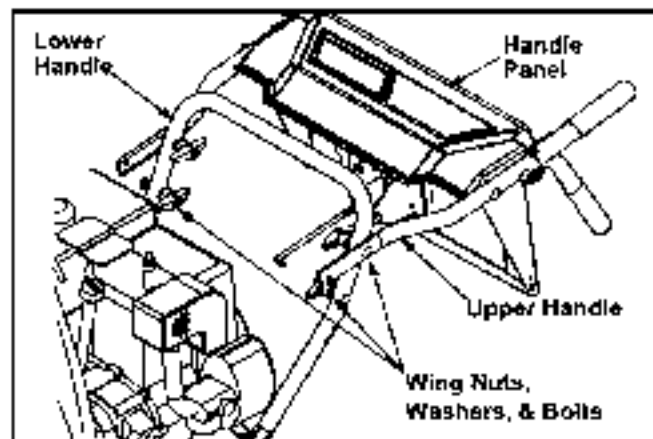

Figure 2
- Remove the lower two plastic wing nuts, cupped washers and carriage bolts from each side of the lower handle. See Figure 2.